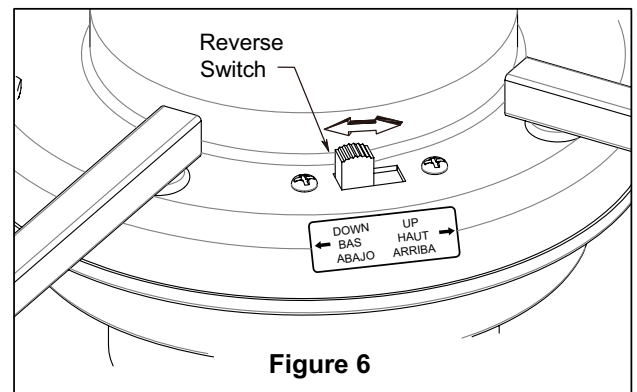

Figure 6
6. Reinstall the hanger ball on the downrod as follows. Route the black, white, blue wires through the hanger ball. Position the pin through the two holes in the downrod and align the hanger ball so the pin is captured in the groove in the top of the hanger ball. Pull the hanger ball up tight against the pin. Securely tighten the set screw in the hanger ball. A loose set screw could create fan wobble. (Figure 6)
- ### 6. If airflow is desired in the opposite direction, turn the fan off and wait for the blades to stop turning. Slide the reverse switch on top of motor assembly to the opposite position and turn fan on again. (Figure 6)